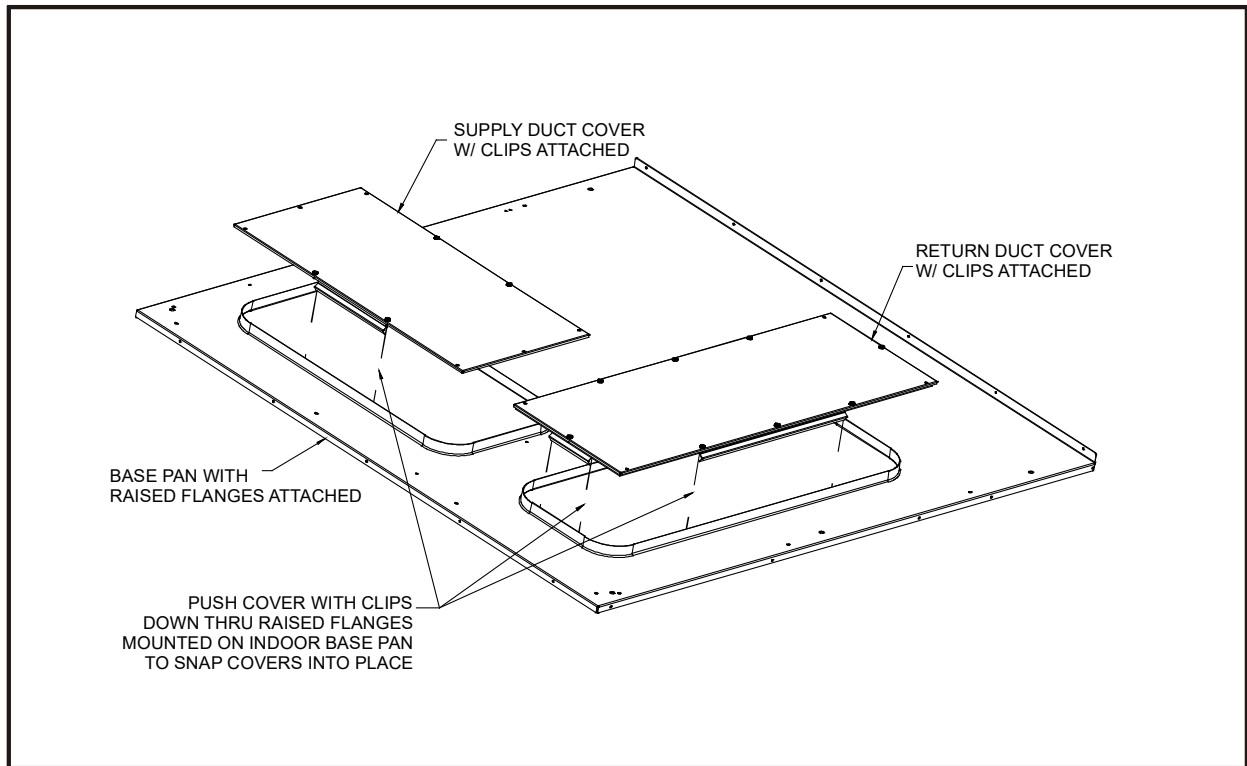

Figure 3
- Place the assembled panels over the supply and return duct openings in the base pan and push down to snap panels into places, as shown in Figure 3. **NOTE:** For 7.5 to 12.5 Ton models, have the 0121L04879 bracket on the supply duct cover facing the evaporator, slide it under the heat exchanger over the supply duct, and push the other side down to snap into place.